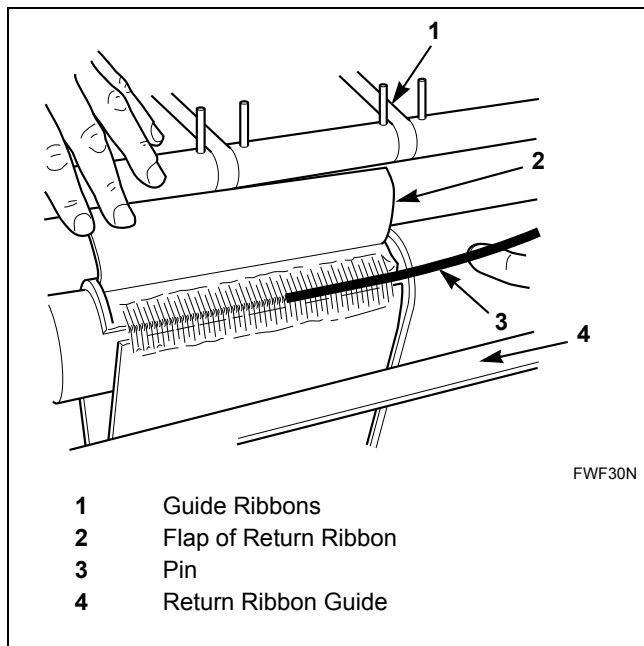

Figure 31
7. Remove pin from teeth of return ribbon. Refer to *Figure 31*.